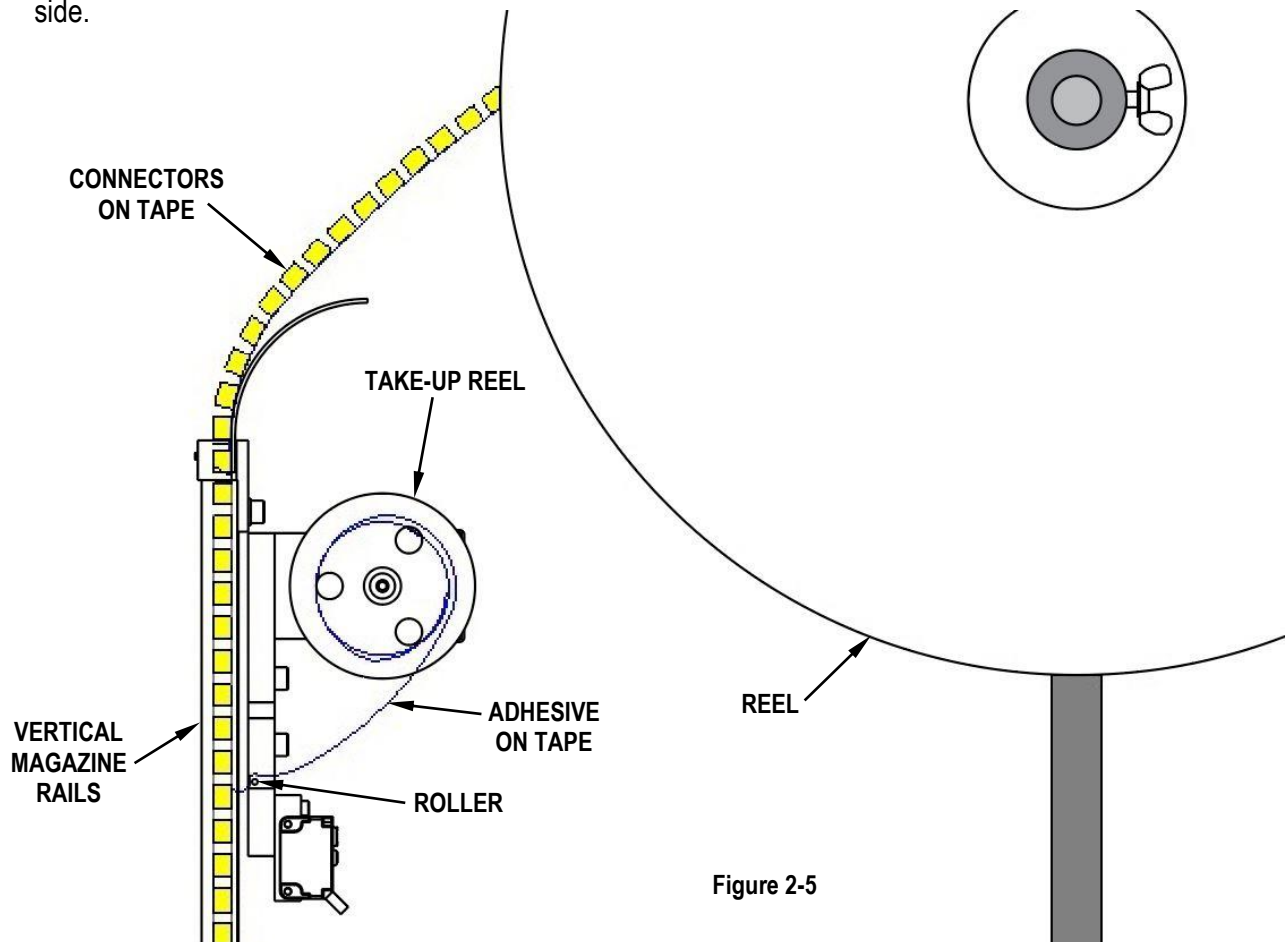

Figure 2-5
3. Attach the end of the adhesive tape to one of the legs on the take-up reel. See Figure 2-5.